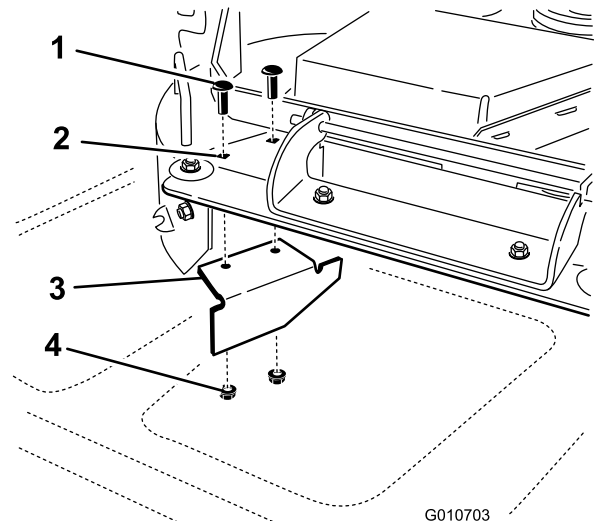

Figure 1
5. Locate the cut off baffle at the side discharge opening on the 54 inch mower deck (Figure 1).